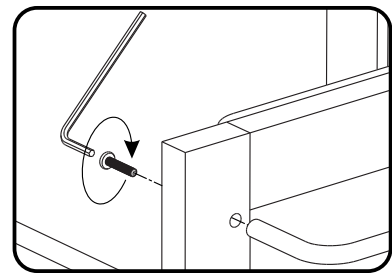

Figure 4
Attach Towel Bar (L) to unit with Head Cap Bolts for Towel Bar. (See Figure 4)